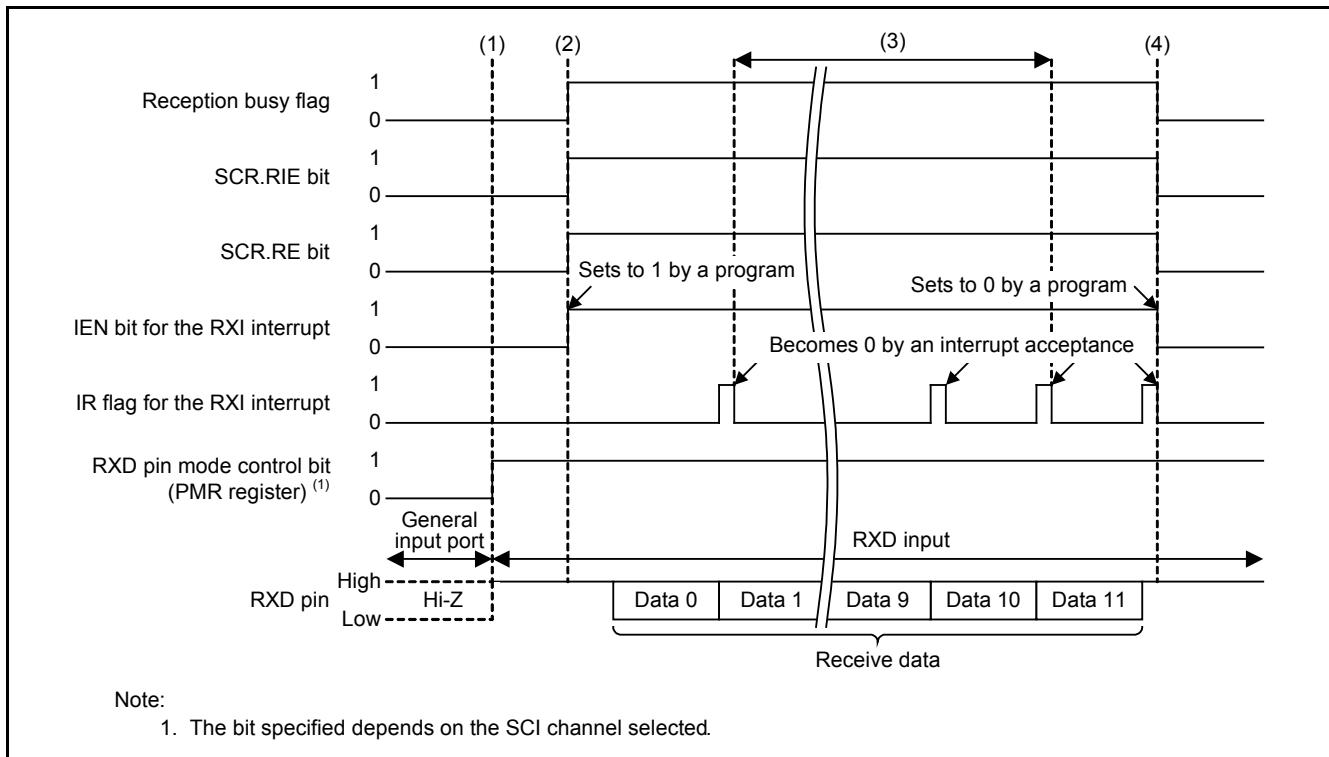

Figure 5.3 Timing of Serial Reception
Figure 5.3 shows the Timing of Serial Reception and (1) to (4) in the figure correspond to numbers in the operation descriptions below.
(1) Initialization